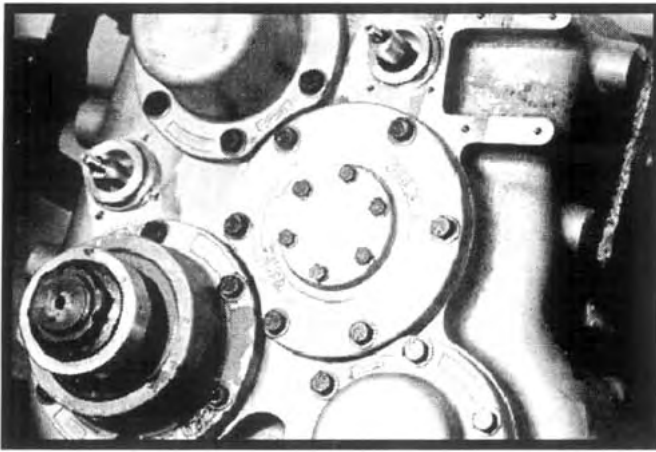

Figure 6.53
40. If the unit is not equipped with a lubrication pump, install the blanking cap with a new gasket on the intermediate shaft cap. Torque the (6) cap screws to specification. See Figure 6.53.